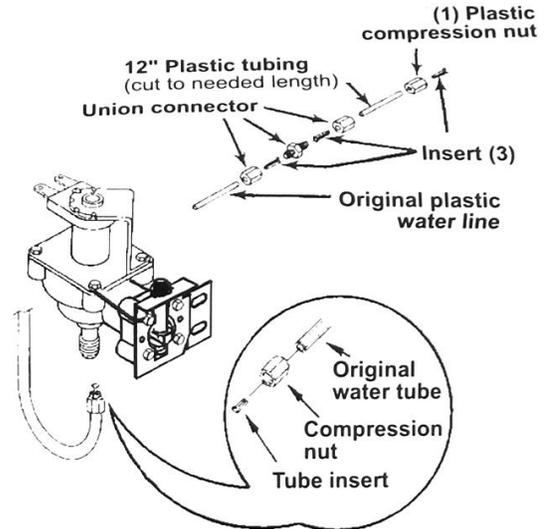

Figure 11
18. Remove the tube insert and compression nut from the original plastic water line. See Figure 11.